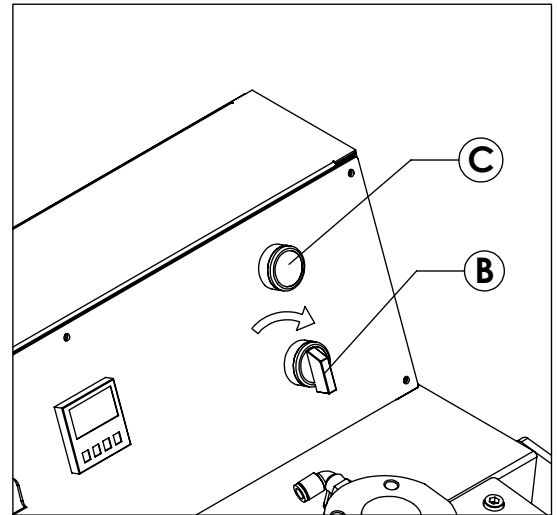

Figure 3
- Turn 1th and 2nd on/off buttons to the right. (Figure.3-B)
- Push Time Entering Button (Figure.3-C) during 3 seconds. At the end of the time button's light to be on and off.
- If 2nd pressing time is zero your machine does not run. For running of the machine you have to set 2nd pressing time. (Figure.3)